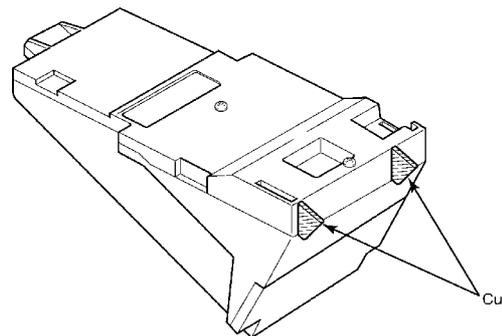

Figure 7-69 Removing the Tabs from the adaptor
2. Cut off the tabs on the adaptor as shown in *Figure 7-69 Removing the Tabs from the adaptor*.